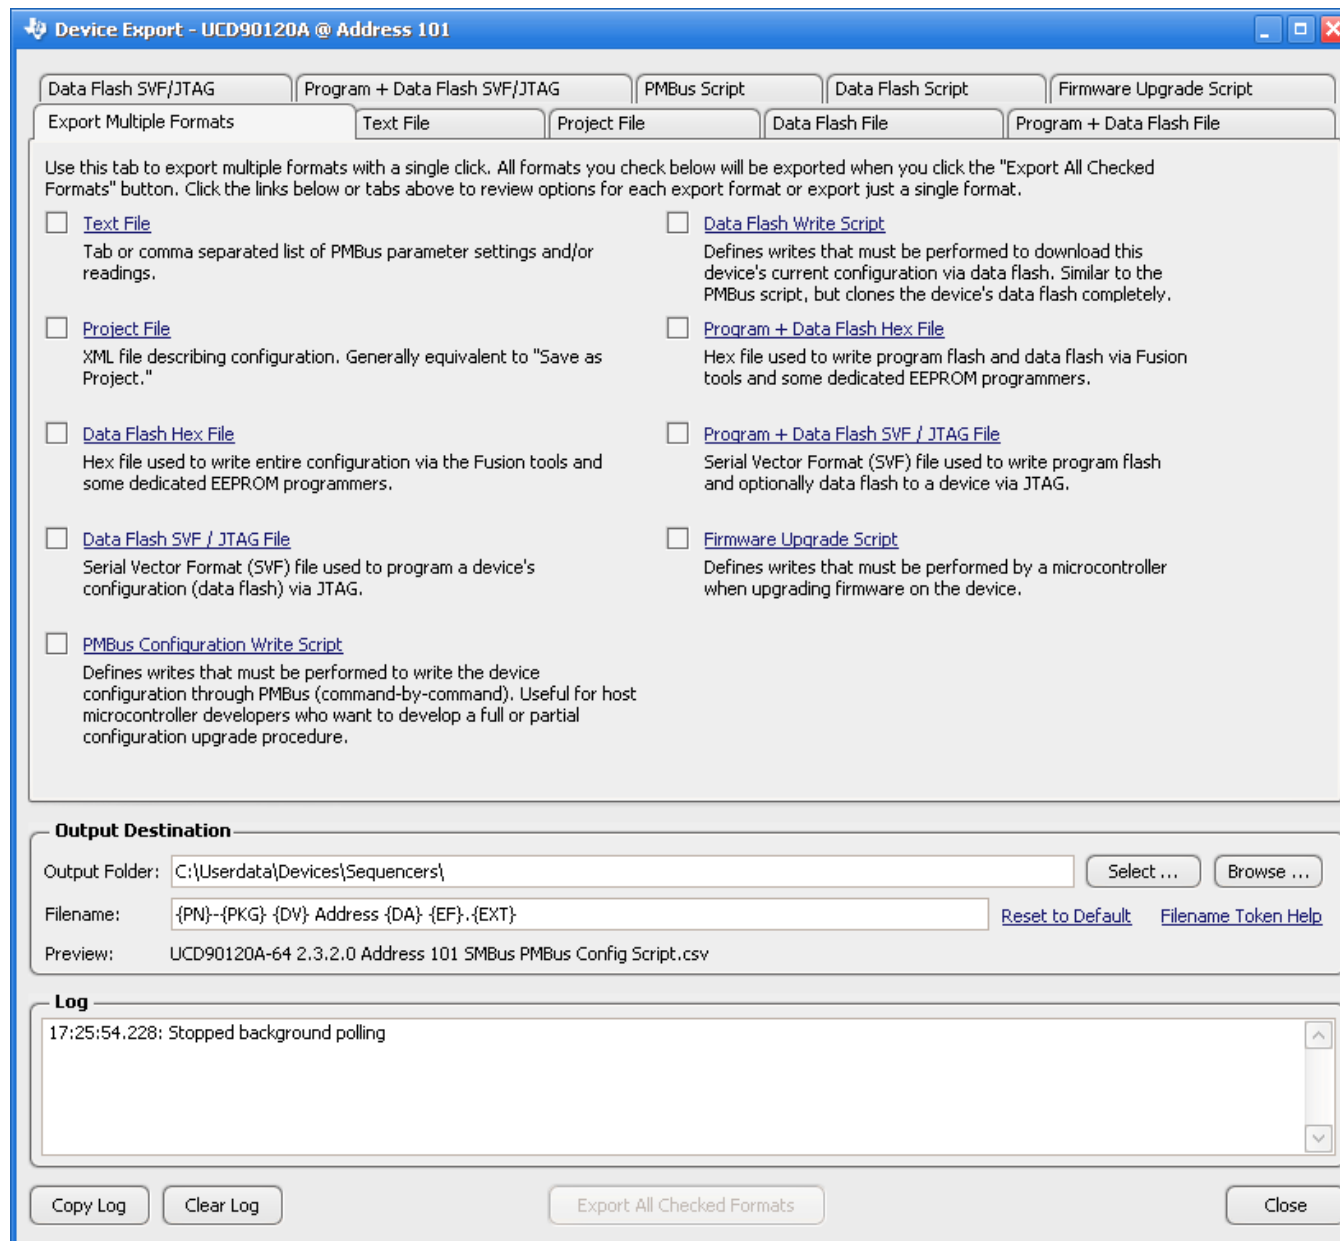

图 31. Fusion GUI Device Configuration Export Tool
- Another in-circuit programming option is for the *Fusion GUI* to create a data flash image from the configuration file (Figure 31). The configuration files can be exported in Intel Hex, Data Flash Script, Serial Vector Format (SVF) and S-record. The image file can be downloaded into the device using I²C or JTAG. The *Fusion GUI* tools can be used on-board if the *Fusion GUI* can gain ownership of the target board I²C bus. It is recommended to use Intel Hex file or data flash script file for production programming because the GPIOs are under controlled states.